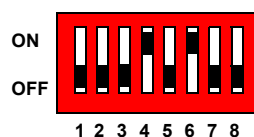

FIGURE 2. INITIAL DIP SWITCH SETTINGS
1. Switch on Bits 4 and 6 of the DIP-switch. Leave all other bits off, see Figure 2.